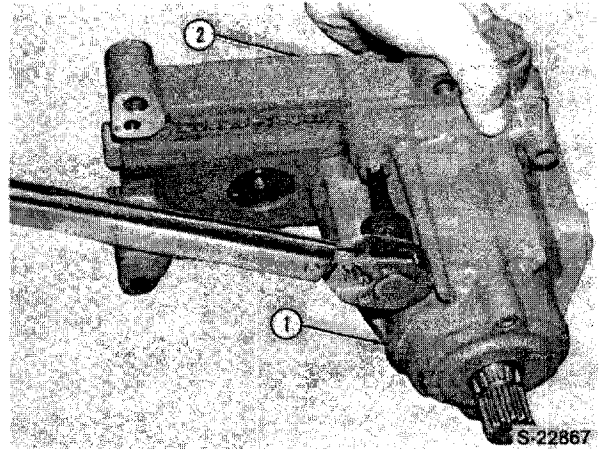

Figure 47
1. Remove the four hexagon socket type bolts, Figure 47.